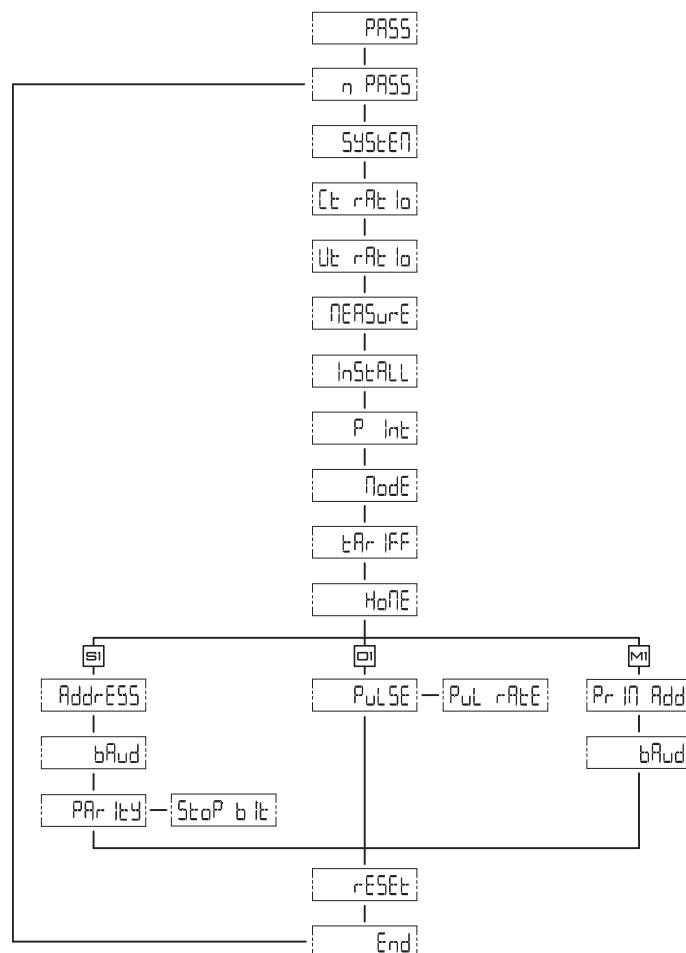

Fig. 17
The check can be disabled using the **Install** parameter, see "**Parameters (Fig. 17)**" on page 9.
## Parameters (Fig. 17)
*NOTE: to set output parameters, see "Parameters (Fig. 17)" on page 9.*